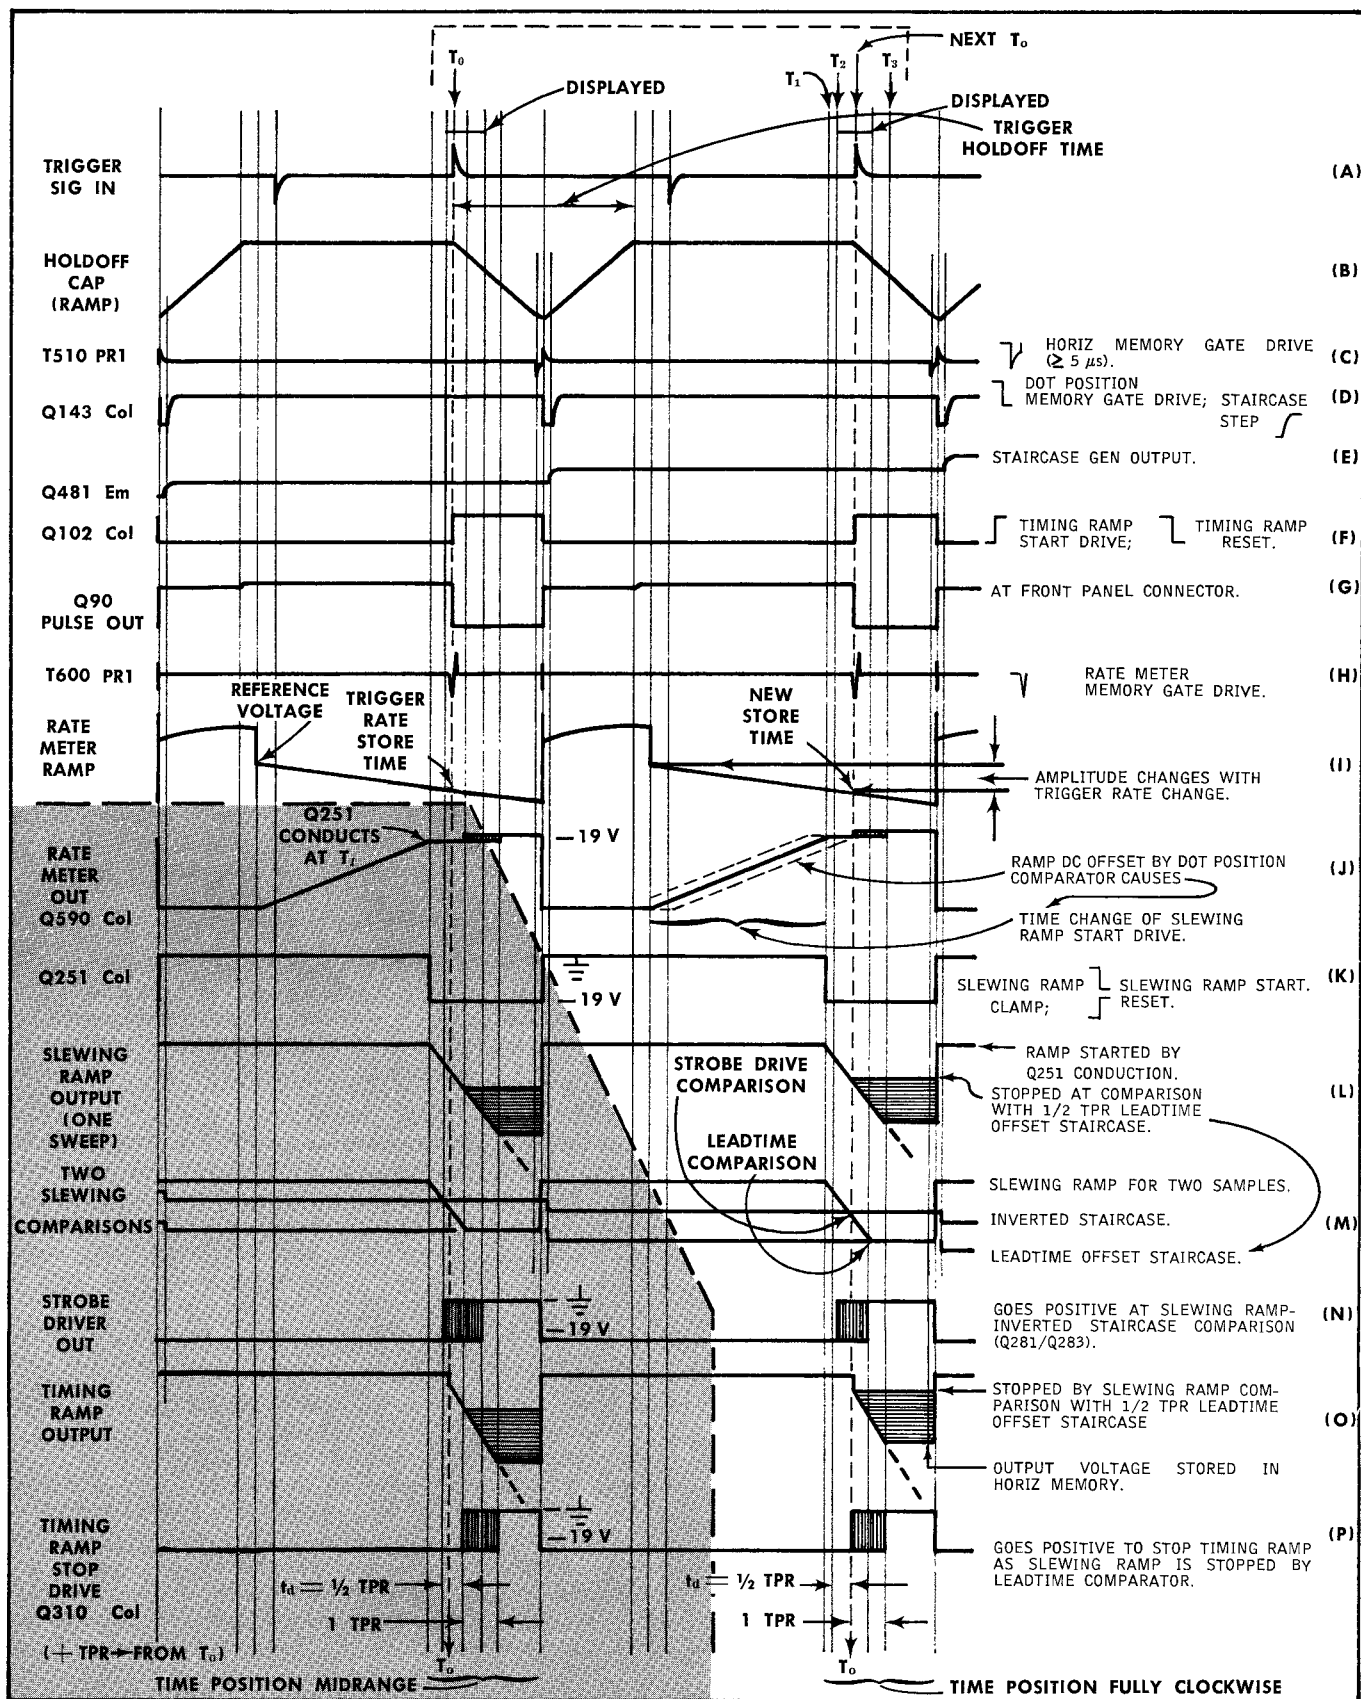

Fig. 2-7. Type 3T2 random process waveforms. Trigger circuits are not counting down.
Waveforms of Fig. 2-7 apply to both the simplified random process block diagram of Fig. 2-6 and to the functional Type 3T2. The shaded area of Fig. 2-7 is discussed later under the heading "Type 3T2 Time Position Control". Fig. 2-7 waveforms can be helpful at a time of troubleshooting because they were obtained under actual operating conditions. Two general kinds of waveforms are shown in Fig. 2-7; single line type that apply to only two successive samples, and multiple line type that apply to the samples of one whole sweep. For example, waveforms (A) through (K) and (M) apply to only two samples, and waveforms (L), (N), (O) and (P) apply to a full Type 3T2 sweep. The triggering signal had very little jitter. This caused the ratemeter ramp waveform to be identical and stable for both samples shown.
Fig. 2-7 has two columns of waveform identification: on the left, the signal source or circuit element where the test oscilloscope probe was connected. On the right, the name of the function related to particular part of the waveform, and in some cases the relationship of two waveforms or circuits, is stated.
Fig. 2-7 timing and slewing ramp waveforms (L and O) include extending dashes at the bottom of the sloping portion. The dashes indicate that the ramps can run farther negative if not stopped by inverted staircase comparison. Each of the two ramps is designed to run for at least twice the time required to display one basic equivalent-time-time-window (when the Time Magnifier switch is at  $\times 1$ ). This allows the operator to move the time window beginning over a time region of one range, and to view a maximum of two ranges.
The timing and slewing ramp waveforms at the right side of Fig. 2-7 represent conditions when both TIME POSITION controls are fully clockwise. The first set of ramp waveforms (in the shaded area) show comparisons beginning down their slopes as if the TIME POSITION controls were somewhere about midrange. Note the changes in time between  $T_1$  and  $T_2$  for the two different TIME POSITION control conditions.
$T_3$  ( $T_3$  of Fig. 2-7) covers one quarter of the timing ramp maximum rundown, or  $1/2$  time position range. This term is abbreviated  $1/2$  TPR.
The multiple slewing and timing ramp comparisons drawn in Fig. 2-7 represent very few samples per sweep. Counter-clockwise rotation of the SAMPLES/DIV control would cause many more samples to be taken in the same amount of ramp time. (Changing the Time Magnifier would keep the number of samples the same, but use less ramp time for a complete sweep.)